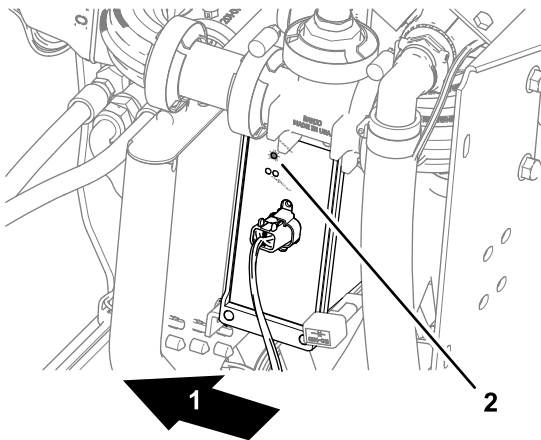

Figure 274
- Automatic section controller—the STATUS indicator illuminates (Figure 274)